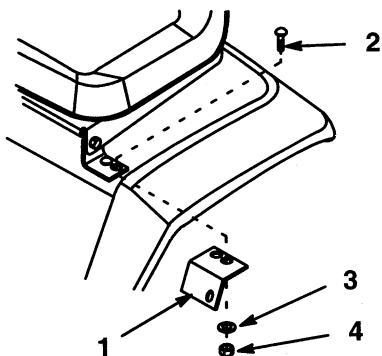

Figure 8
5. Remove nuts and washers from left seat bracket (Fig. 8).
6. Install lift assist spring bracket on under side of left rear fender with long angle of bracket forward (Fig. 8). Secure with previously removed hardware.